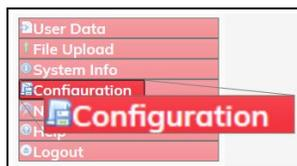

Figure 271: Configuration link
4. On the **Menu** list, click the **Configuration** link. Figure 271